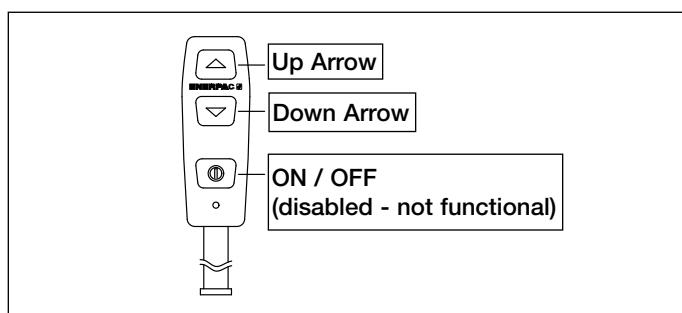

Figure 6
5.1 Pendant Operation (see Figure 6)
Oil flow and motor operation are controlled by the pendant buttons. The pump will run and the cylinder will clamp when the pendant Up-Arrow button is pressed. The pump will run and the cylinder will unclamp when the pendant Down-Arrow button is pressed. Releasing either button at any time will stop the pump and will relieve pressure in the hoses (see Fig. 6).
4. Press and hold the Up-Arrow button on the pendant. (see figure 6). Allow pressure to build.
- b. Press and hold the Up-Arrow button on the pendant. (see figure 6). Allow pressure to build.
8. Release the Up-Arrow button. Check that gauge indicates zero (0) psi.